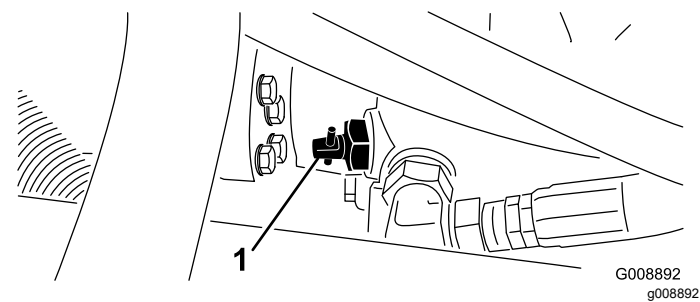

Figure 27
1. Locate the bypass valve on the pump (Figure 27) and rotate it 90°.